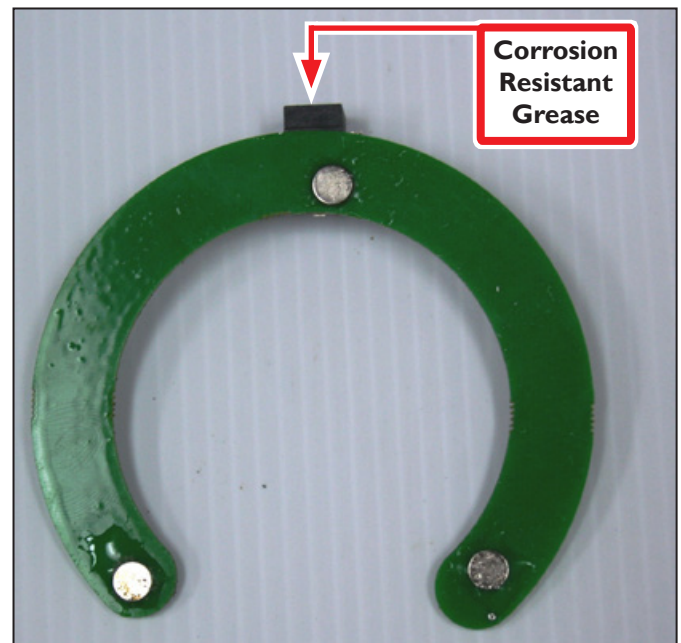

Figure 4
2. Epoxy Magnets to back of spindle light per instructions on Epoxy packet (see **Figure 4**). Spindle light can also be epoxied to spindle.
NOTE: Electrical connector on light contains corrosion resistant grease (see **Figure 4**). Do not remove grease and do not allow grease to come in contact with cleaned surfaces.